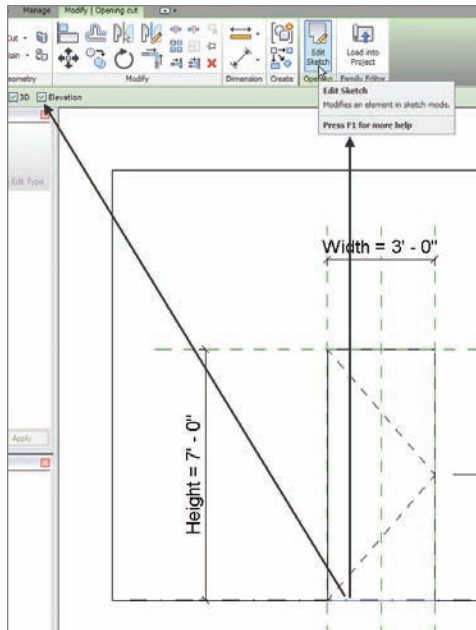

FIGURE 17.14 Editing the door opening
5. In this view you will see a wall and an opening. Select the bottom of the opening, as shown in Figure 17.14.
7. Next, click the Edit Sketch button on the Opening panel (see Figure 17.14).